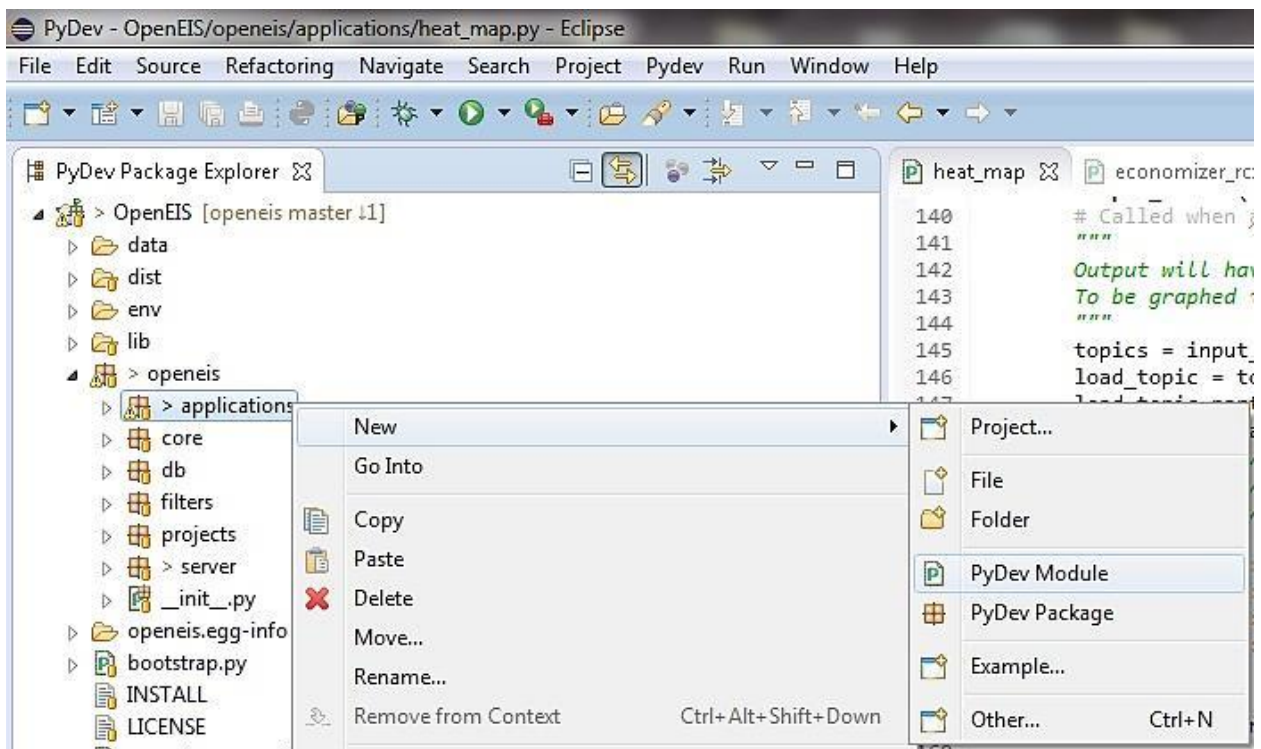

Figure 56: Creating a new Driver Application from the PyDev Package Explorer
- New -> PyDev Module (Figure 56)